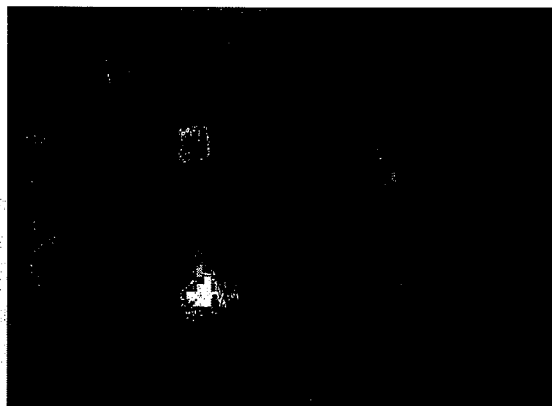

Figure 18
2. To raise the squeegee, lift the squeegee lever up. See figure 18.